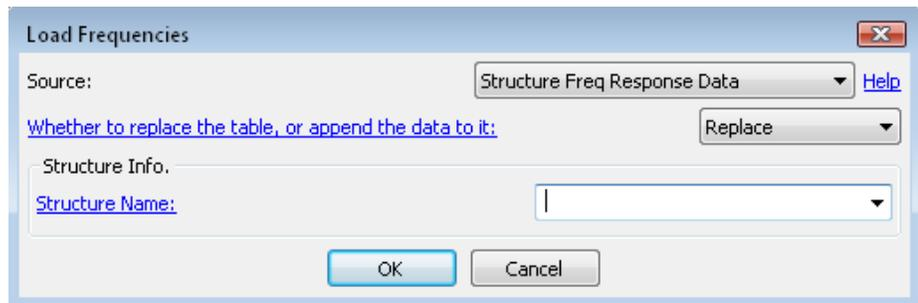

**Figure 7.20** Load frequencies from the natural mode data file.
**7.2.2.4. Natural Mode Data File** Analysis frequencies could be extracted from a natural mode data file using this option (Figure 7.20). Select appropriate parameters and press OK to load natural frequencies. A new dialog box with a list of available natural frequencies from the natural mode data file appear. See Figure 5.8. Select the frequencies of interest by checking/unchecking a natural frequency or by using any of the buttons: **Select All**, **Unselect All**, or **Select by Frequency Range...**. If there is no natural mode data available for the selected structure, an alert window will pop up with the same message.